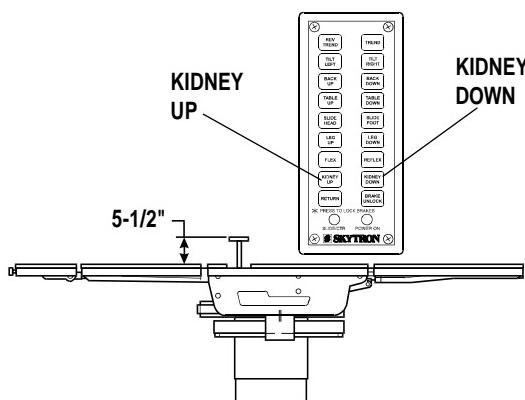

Figure 2-11. Kidney Lift Positioning
**i. Kidney Lift.** To raise the built-in kidney lift, press the KIDNEY-UP button (figure 2-11). Up to 5-1/2 inches of lift can be achieved. Press the KIDNEY -DOWN button to lower the kidney lift.